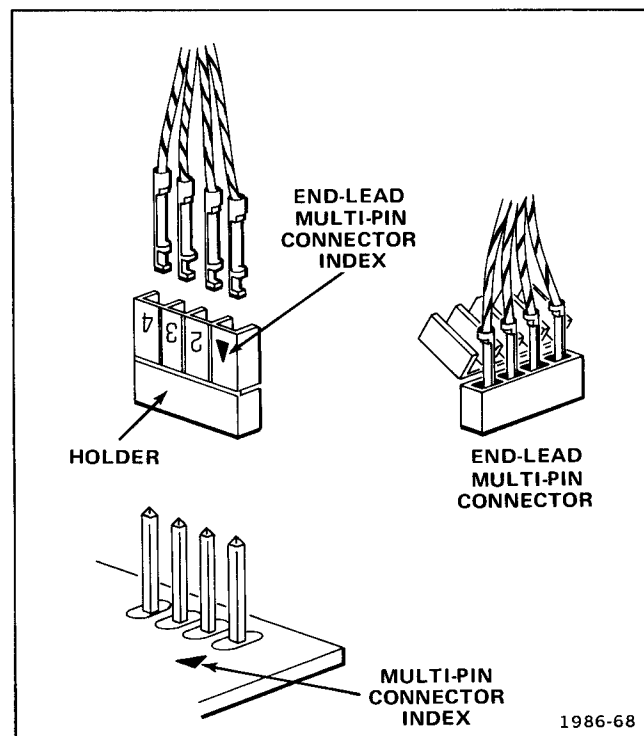

Fig. 4-4. End-lead multi-pin connector assembly.
Multi-pin connectors mate with groups of pins soldered to circuit boards. Pin number 1 is indexed with a triangular mark on the circuit board and molded on the holder of the multi-pin connector, as shown in Fig. 4-4. Each group of pins is identified by its corresponding J number etched on the circuit board. The J numbers on the circuit boards correlate to the J and P component numbers on the schematic diagrams.
2. Note the color of the other multi-pin connectors and J number to which each is attached (see Fig. 4-4 for identification).